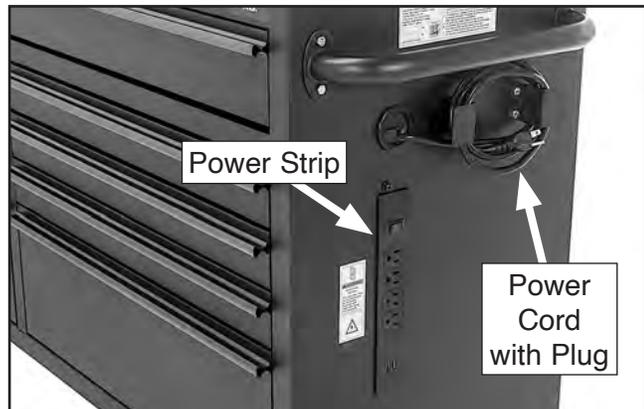

Figure 6. Power strip and cord location.
The T34622 features a pre-installed power strip with (4) 5-15 outlets and (2) USB ports, conveniently located for easy access (see **Figure 6**). The included power strip has the following ratings: